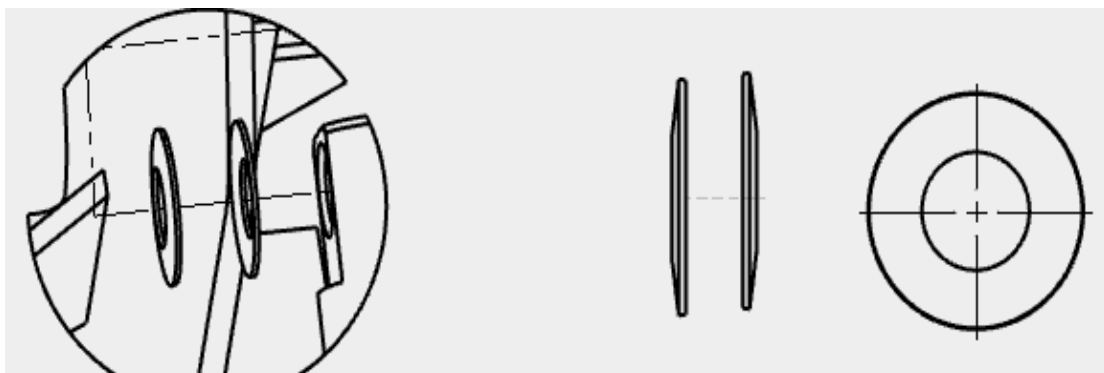

Figure 7.2
- a. Upper pin requires two belleville washers installed cupped towards each other as shown in figure 7.2. Shim any additional gap with standard washers that were removed when original cylinder was removed.